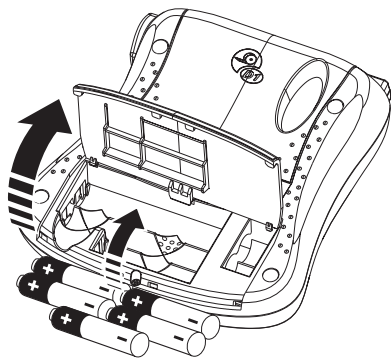

Figure 2
1. Press the thumb catch to open the battery compartment door. See Figure 2.